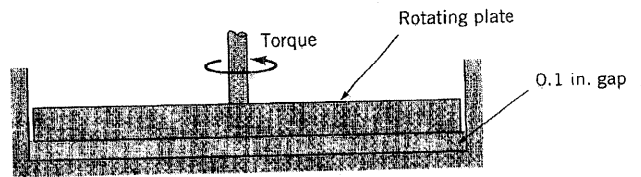

FIGURE P1.65
**1.65** A 12-in.-diameter circular plate is placed over a fixed bottom plate with a 0.1-in. gap between the two plates filled with glycerin as shown in Fig. P1.65. Determine the torque required to rotate the circular plate slowly at 2 rpm. Assume that the velocity distribution in the gap is linear and that the shear stress on the edge of the rotating plate is negligible.